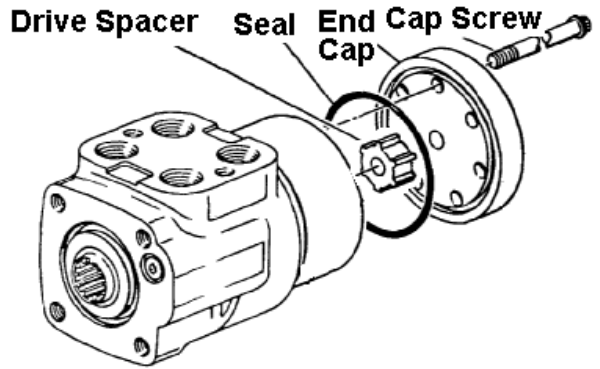

FIGURE 22
21. Install drive spacer when used, in meter see Fig. 22